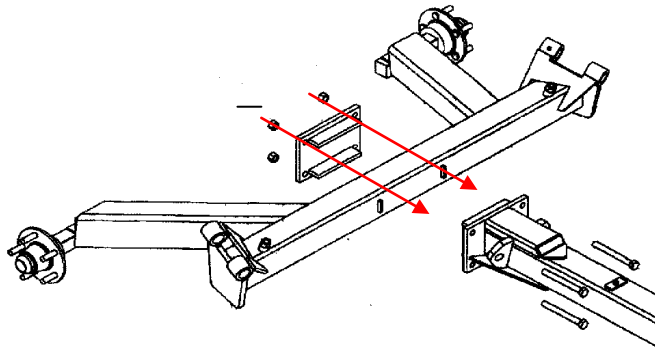

FIG. 29
- a) Attach the drawbar (52) to the back frame (31) by bolt (27) and plate of frame (41). Attach the jack (5) and wheel (36). Fig 29.